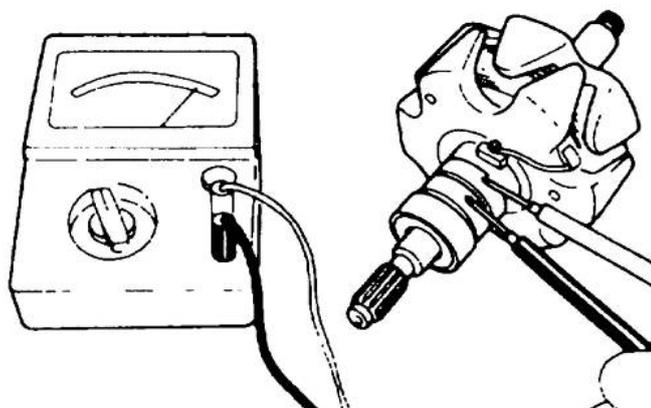

Figure 317 Continuity Test of the Rotor and Slip Ring
- d. Using an ohmmeter, check the resistance across the slip rings. If continuity does not exist, replace the rotor assembly (Figure 317).